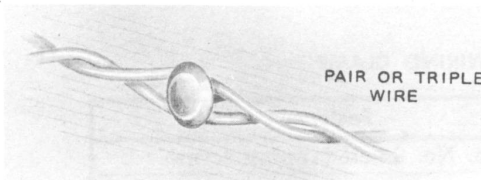

Fig. 4 — Inside Wiring Nail
3.05 Inside wiring nail (Fig. 4)